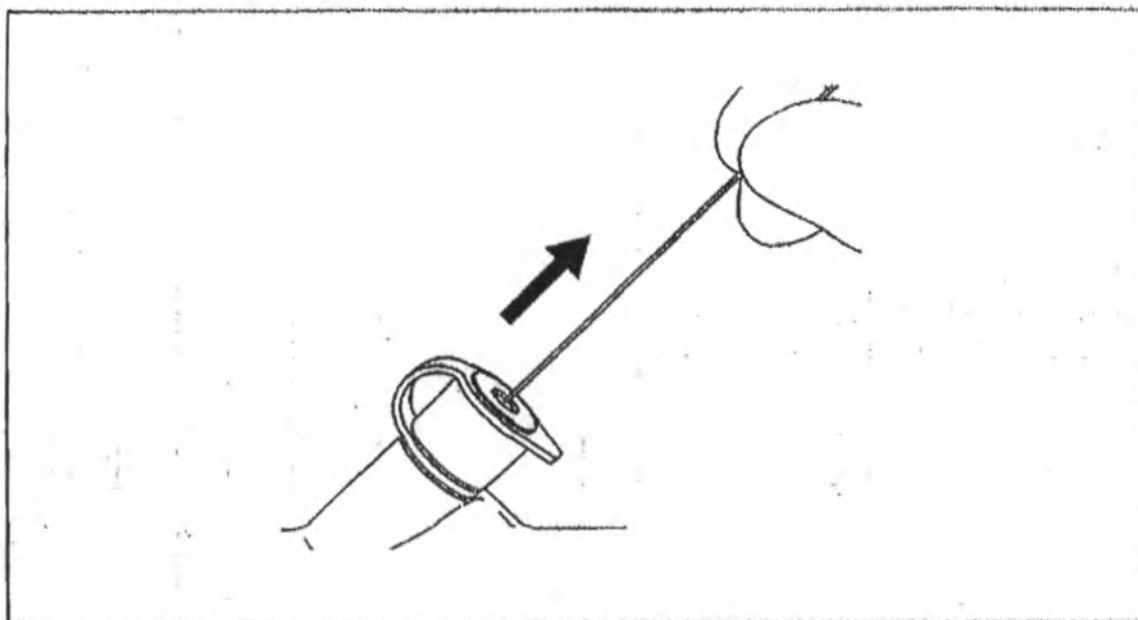

Fig.20.
2. Slowly remove the endoscopic device directly towards the inlet valve. (see Fig. 20)